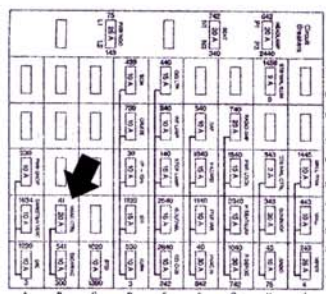

FIGURE 2
STEP 5: RUN RED WIRE (POSITIVE) TO FUSE BOX LOCATED BEHIND GLOVE COMPARTMENT. INSERT SPADE TERMINAL TO LOCATION 41 (HVAC CTRL) AS SHOWN IN **FIGURE 2**. THERE SHOULD BE NO FUSE IN LOCATION 41. IF THERE IS, FIND ANOTHER SWITCHED POSITIVE LEAD IN THE FUSE BOX.